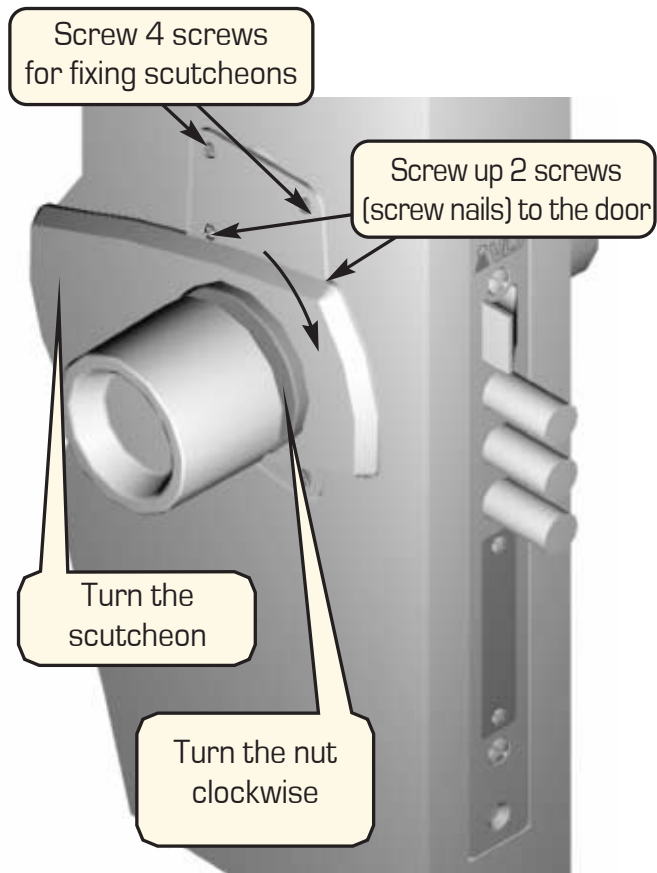

Figure 15 – Installation of the inner handle with scutcheon
25. By turning the round nut from the inner side of the lock clockwise up to the stop, fix the scutcheon (fig. 15).